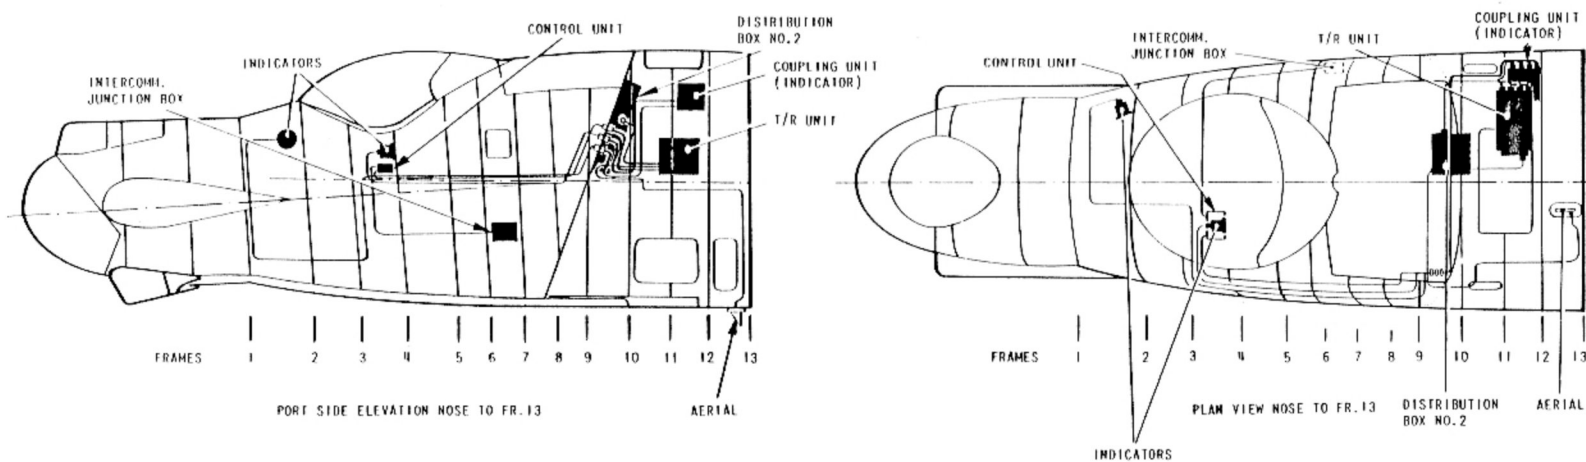

FIG. 1. TACAN A.R.I. 18107/18 INSTALLATION
12. When the installation is operating normally the bearing pointer remains steady and the distance counter indication decreases as the aircraft flies towards the beacon. When the T/R unit is not 'locked on' to the beacon to which it is tuned, the bearing pointer rotates continuously round the dial and the distance counters also rotate but are partially obscured by a flag. When the T/R locks on and the distance is greater than 99 nautical miles, a figure 1 on the flag appears at the left-hand side of the digital display so that the indicator is capable of showing distances up to the operational limit of the equipment, i.e. 195 nautical miles. When the distance has decreased to 99 nautical miles,